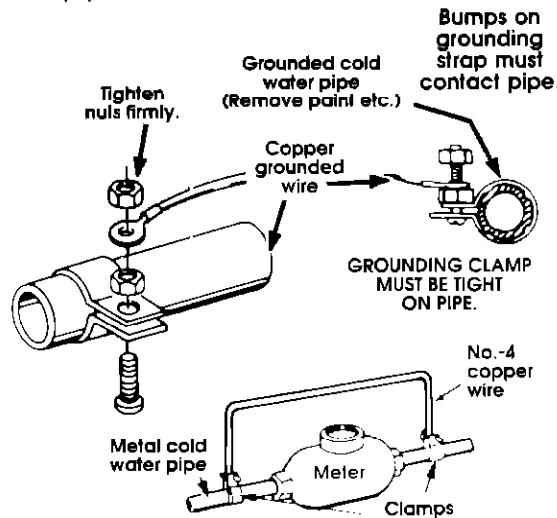

Figure 3
5. A separate copper grounding wire (No. 10 minimum) **MUST** be connected to a grounded cold water pipe by means of a clamp and then to the external grounding connector screw. **Do Not ground to a gas supply pipe or hot water pipe.** Do Not connect to electrical supply until appliance is permanently grounded. (See Figure 3.)